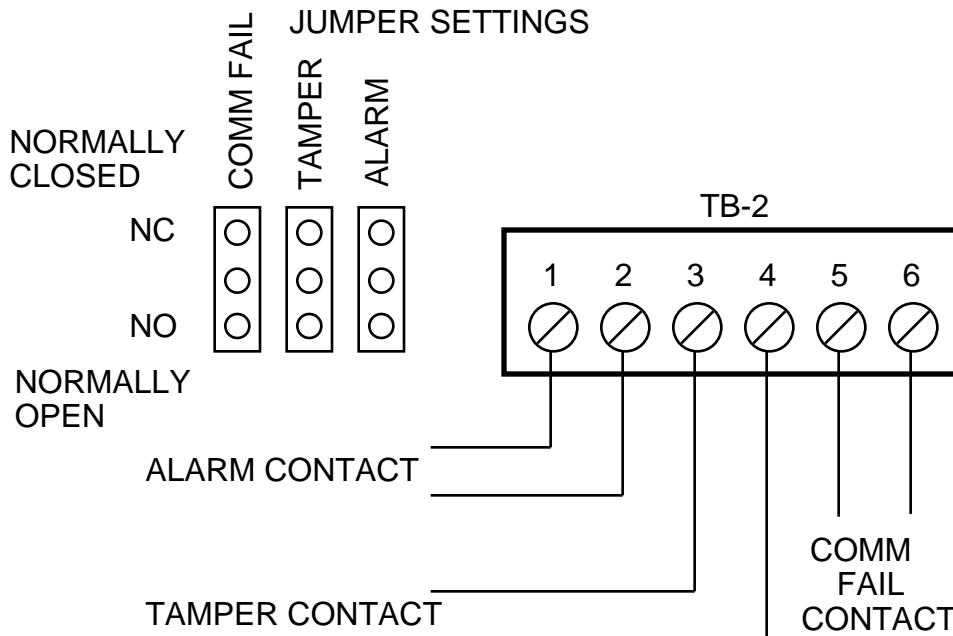

Figure 3-12
- 3.5.12 The DCU contains common alarm, tamper and communications failure outputs. These outputs are relay contacts that are activated whenever the remote controller board has an alarm condition on any zone, or any tamper condition on any zone, or any communications failure, respectively. These outputs appear on terminal board TB-2. See Figure 3-12 for connection information. Each local relay contact can be used as either a normally closed or a normally open contact. Circuit board jumpers are provided for each output contact. See Figure 3-12 for jumper settings.